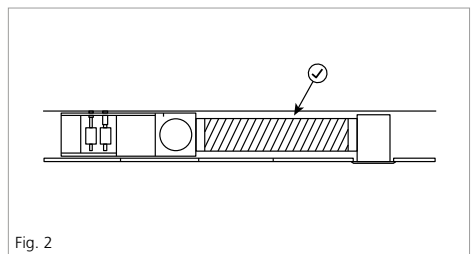

Fig. 2
1. Where practically possible, ensure that the ducts are kept in a straight line and the number of tight bends is reduced to a minimum. See Figure 2.